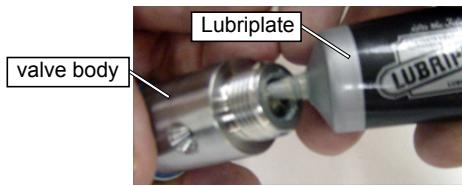

Figure 5-46
2. Slide **seal assembly** onto **stem assembly** shaft with **O-ring** facing towards **valve body** (Figure 5-46). Ensure the seal assembly slips over the **pointed end** of the stem assembly.